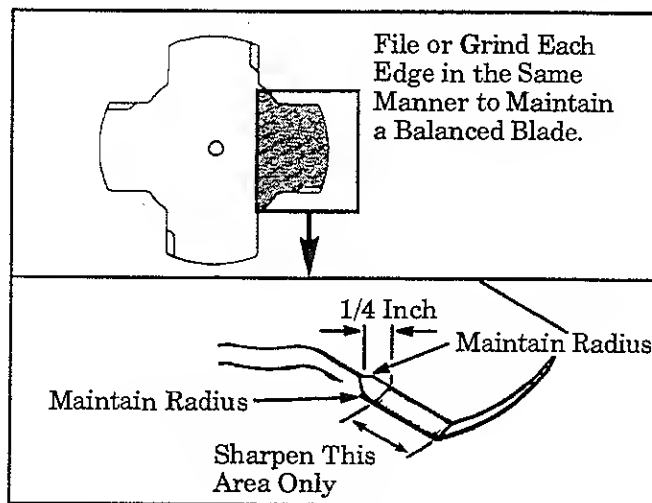

Figure 30
3. File or grind each edge in the same manner to maintain a balanced blade. Figure 30.
To prevent the blade from cracking or flying apart after sharpening, do not file within 1/4 inch of the radii shown in Figure 30.